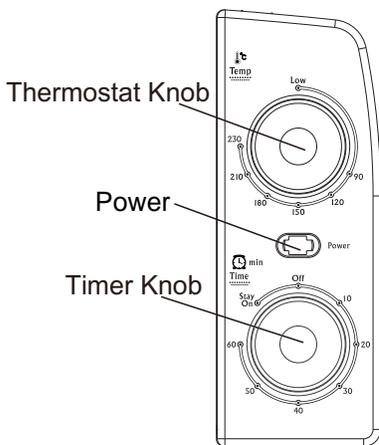

fig.7.
1. Turn the Temperature Knob clockwise to 220°C. See fig.7.